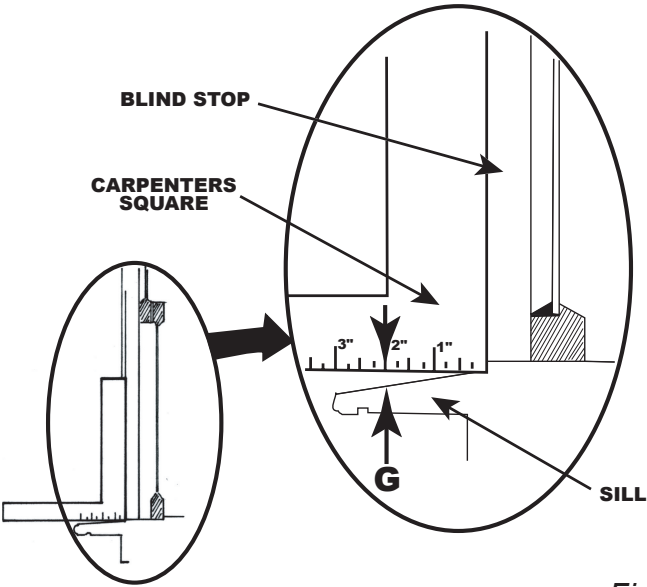

Figure 5
- Step 1. Place a carpenters square against the side blind stop, with its base resting on the sill (figure 5).